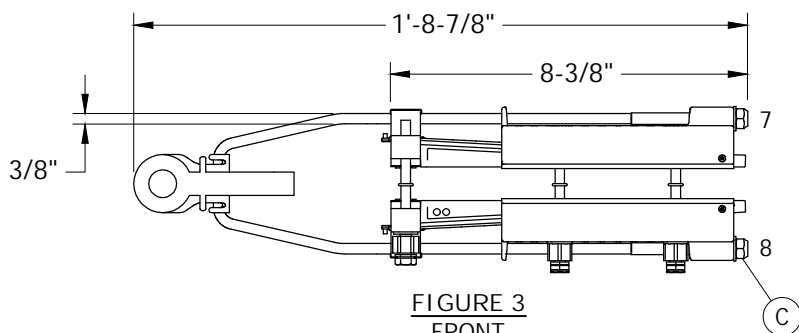

FIGURE 3
- (C) NUTS 7 AND 8 SHOWN IN FIGURE 3 ARE INTENDED TO BE USED DURING RIGGING TO MAKE SMALL SAG CORRECTIONS ONLY AFTER CLAMP BOLTS 1 THROUGH 6 ARE INSTALLED AND SHEARED PER NOTE (B). TWO (2) THREADS MUST BE SHOWING PAST THE NUT.